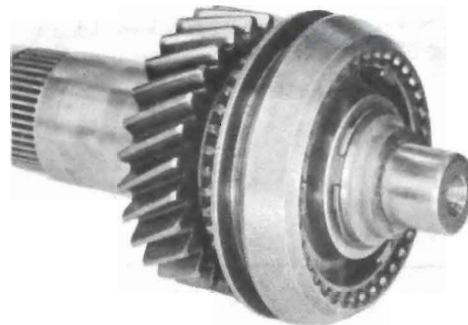

Figure 72-317 Installing Second-Third-Speed Synchronizer Assembly
5. Install the second and third speed synchronizer assembly, (see Figure 72-317). Install synchronizer assem-